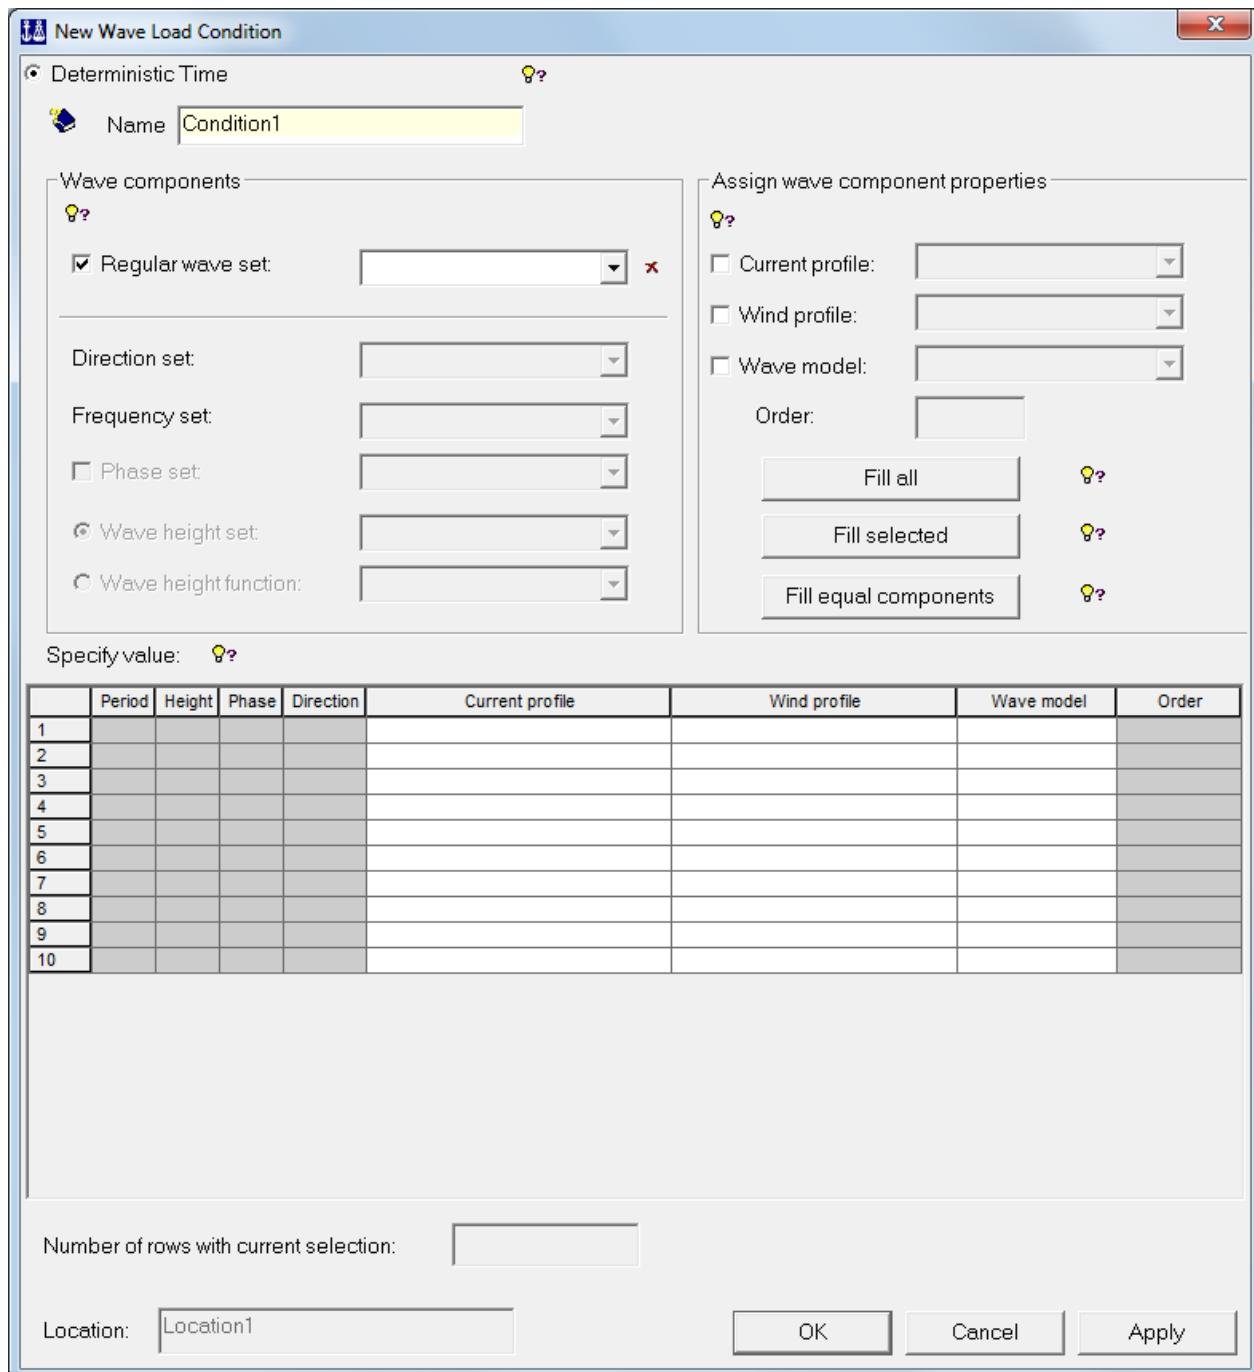

Figure 5.17 The New Wave Load Condition dialog – Deterministic Time
In a wave load analysis it is optional. It may be used for defining a Wave Load Condition either of type Deterministic Time (Figure 5.17) . Frequency Domain analysis is not available in this version of GeniE.
In a wave load analysis it may be used when defining a Wave Load Condition of type Deterministic Time (Figure 5.17).
In a wave load analysis a current profile may be used when defining a Wave Load Condition (Figure 5.17).
The dialog has three options: Period, Wavelength and Frequency. The Wavelength option is illegal in this context. For a wave load analysis Period is the normal choice. However, if Frequency data is used it will be converted to Period in the Edit Wave Load Run dialog (Figure 5.17).
In a wave load analysis a frequency set may be used when defining a Wave Load Condition (Figure 5.17).
In the Wave Load Condition dialog (Figure 5.17) the default behaviour is that no phase angle set is selected in which case the initial phase angle is 0.0 degrees. If the initial phase angle should have another value or more values then a set must be defined and selected.
In a wave load analysis a wave height set may be used when defining a Wave Load Condition (Figure 5.17).
In a wave load analysis a wave height function may be used when defining a Wave Load Condition (Figure 5.17).
A regular wave set may be used when defining a Wave Load Condition (Figure 5.17).
- For an explanation of how the Fill all, Fill selected and Fill equal buttons function see the Regular Wave Set dialog (Figure 5.17).